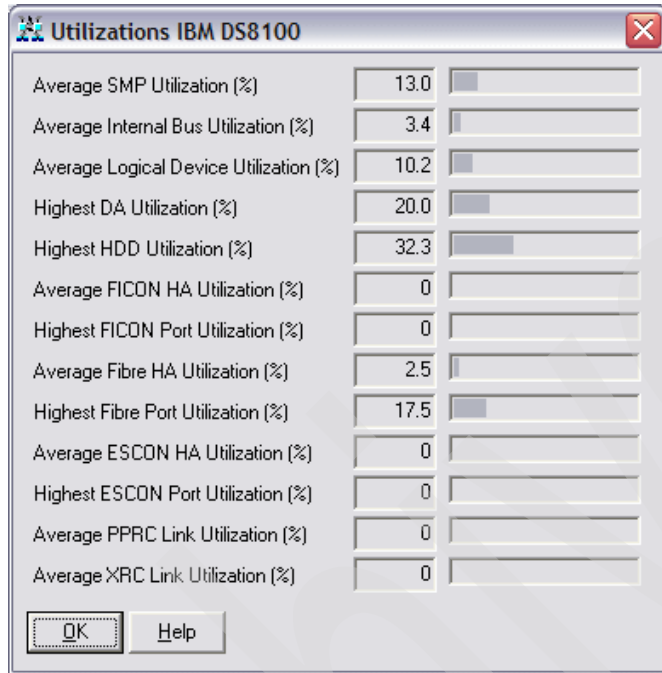

Figure 4-42 Modeled utilizations
11. In the Utilizations IBM DS8100 window (Figure 4-42), observe the modeled utilization of physical disk drives or hard disk drives (HDDs), DS device adapters, LUNs, FC ports in DS, and so on.